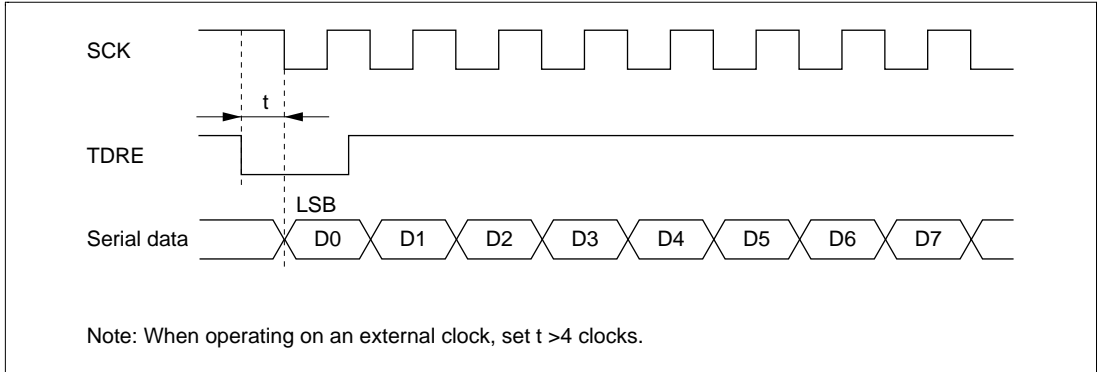

Figure 13-22 Example of Clocked Synchronous Transmission by DTC
- When an external clock source is used as the serial clock, the transmit clock should not be input until at least 5ϕ clock cycles after TDR is updated by the DTC. Misoperation may occur if the transmit clock is input within 4ϕ clocks after TDR is updated. (Figure 13-22)